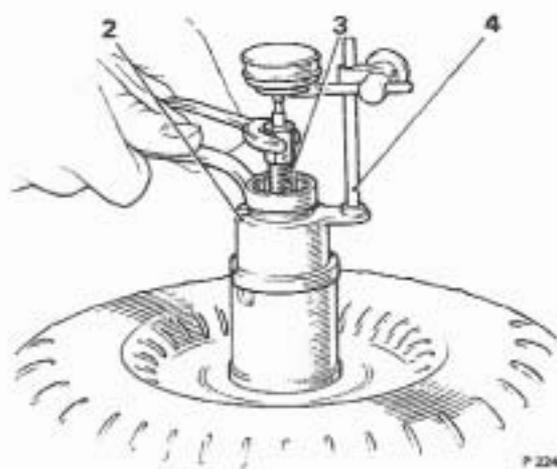

FIG. T172 CHECKING CONVERTER END CLEARANCE
2. Install collet end of Tool J-21371-8 into converter hub until it bottoms (*see Fig. T172*); then tighten its cap nut to 5 lb. ft. (0,691 kg.m.).
3. Install tool J-21371-3 and tighten hexagon nut to 3 lb. ft. (0,415 kg.m.) (*see Fig. T172*).